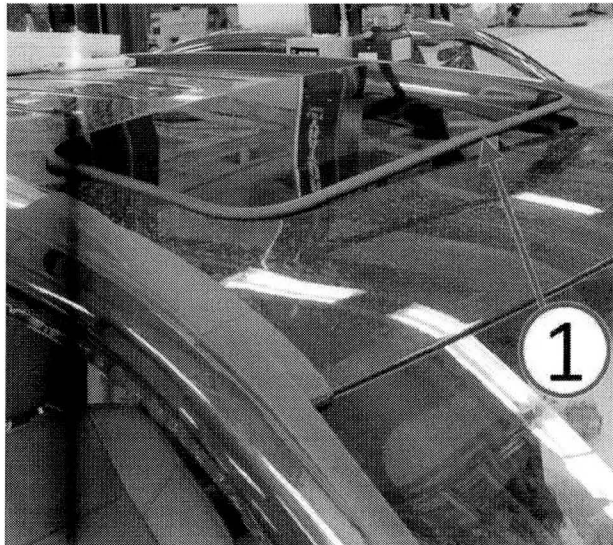

Fig. 7 Sunroof Glass Panel Installation
12. Carefully lower the sunroof panel into the roof opening (Fig. 7).